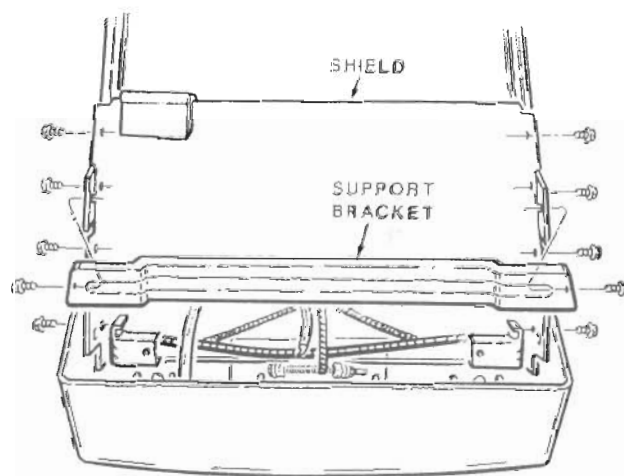

Figure 3-8. Support Bracket and Shield Removal
2. Refer to Figure 3-8 and remove the six hex screws that hold the wire mesh shield in place. Lift the shield away from the support bracket and replace the screws.
3. Refer to Figure 3-8 and remove the two hex screws that secure the support bracket to the side panels. Remove the bracket and replace the screws. After this bracket is removed, the side panels (with the deflection, power supply, and dynamic focus boards attached) will lose most of their support.